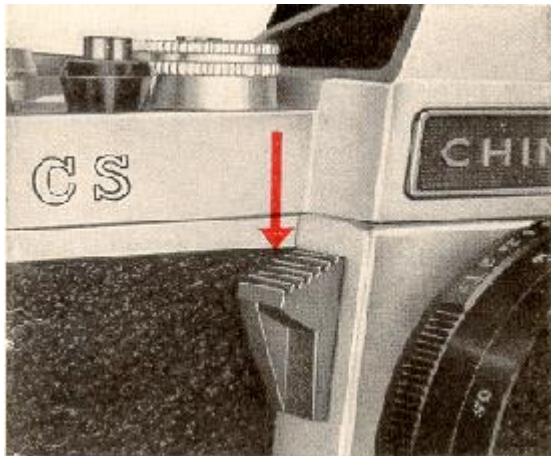

Fig. 13
(1) See the subject through viewfinder. Press down the exposure meter switch (Fig. 13).